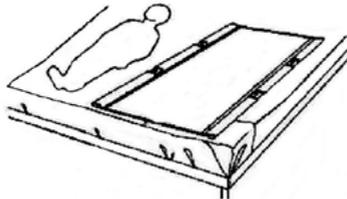

Fig. 8
3. Position the Canvas Stretcher adjacent to the patient, ensuring the supporting surface is suitable (see Fig. 8).